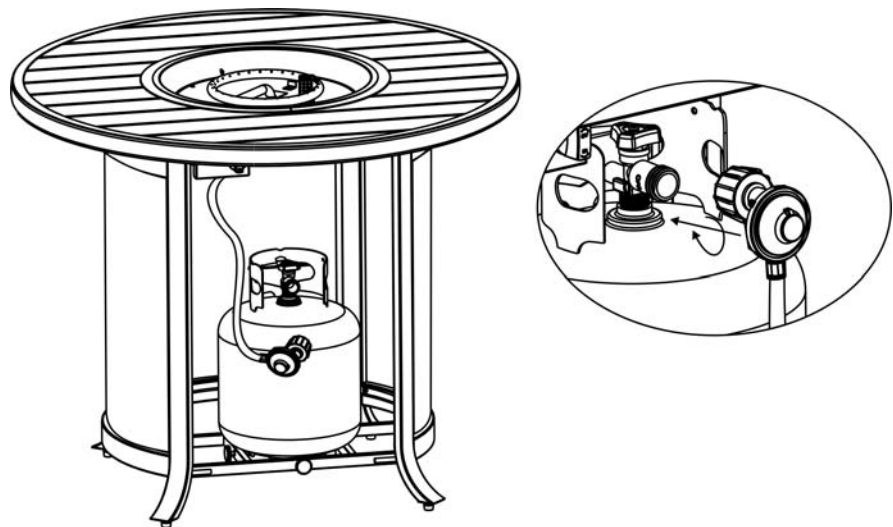

Figure 7
7. Slide the tank drawer out and place the LP tank in the drawer. Connect the regulator as shown in Figure 7. Turn the black handle clockwise to tighten. Turn the handle counter clockwise to remove. The hose must point down. Check that the valve is turned all the way clockwise to the "OFF" position. Open the tank valve. Apply a solution of soapy water to the tank-regulator connection and to the valve-hose connection to check for leaks. If soap bubbles continue to form, the connection has a leak. If a leak is found, close the tank valve and tighten all connections.